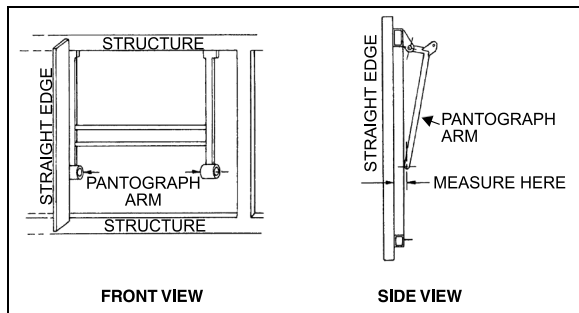
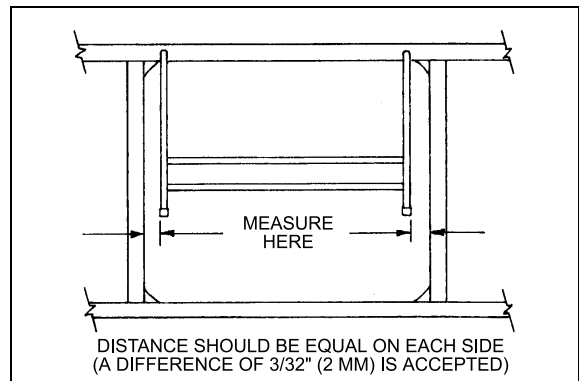

FIGURE 79: PANTOGRAPH DOOR ADJUSTMENT 18062
FIGURE 80: PANTOGRAPH DOOR ADJUSTMENT 18063
Measure distance between a pantograph arm end and a straight edge resting on structure. Repeat procedure for the other arm. The distance on each side should be equal. If not, bend appropriate arm until desired measure is obtained (Figure 79 & Figure 80).
5. When the door is straight, remove the 2x4's and check door operation and fit. A difference of 3/32" (2mm) between both sides is accepted (Figure 80).